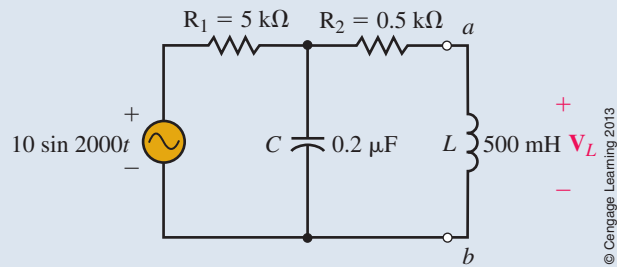

FIGURE 20-24
Refer to the circuit shown in Figure 20-24 of Practice Problems 3. List the steps that you would use to find the Thévenin equivalent circuit.
- Find the Thévenin equivalent circuit external to the inductor in the circuit in Figure 20-24. (Notice that the voltage source is shown as sinusoidal.)